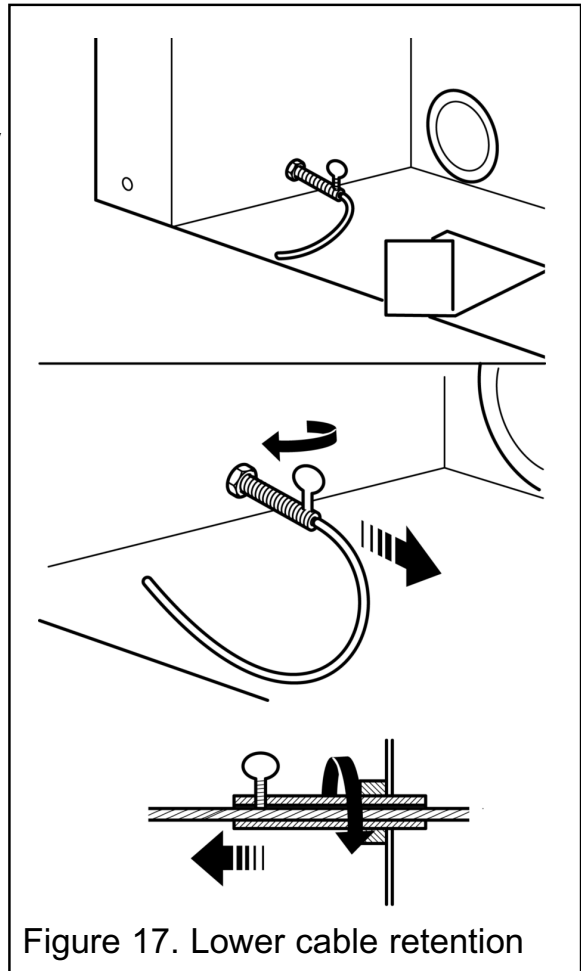

Figure 17. Lower cable retention
9. Pull each cable taut. Push the cable adjusters hard up against the back panel. Tighten the screws in the adjusters so that they clamp the cables in position. Apply tension to the cables by turning the hexagonal adjusters by hand (See figure 17).